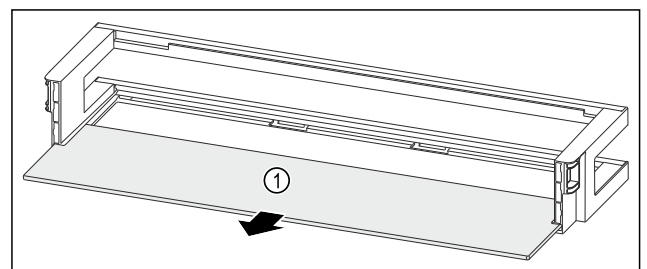

Fig. 247 Door rack with shelf
- ▶ Remove the shelf Fig. 247 (1).